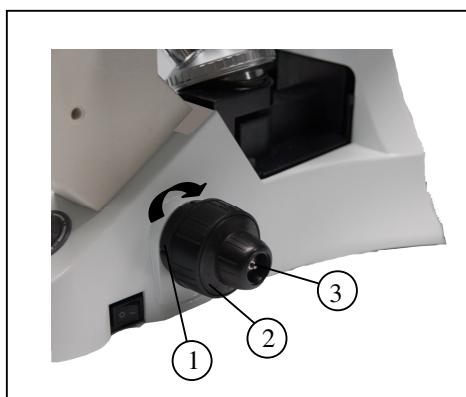

Figure 18
## 4-1-3 Adjusting the Tension Adjustment Collar (Figure 18)
Rotate the tension adjustment collar ① in the direction shown by the arrow (Figure 18) to increase the tension of the coarse focus knob ②. Rotating the collar in the opposite direction will decrease the tension.